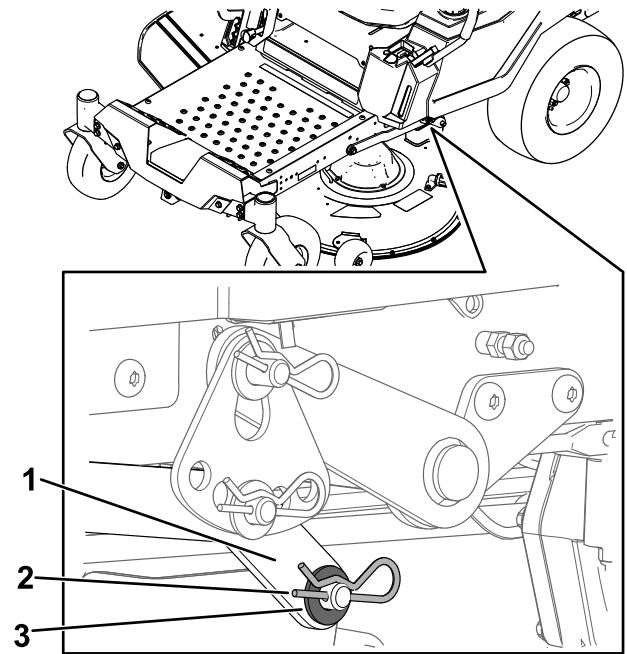

Figure 65
- On 1 side of the machine, remove the washer and hairpin cotter from the deck pin (Figure 65).
- Remove the lift arm from the deck pin (Figure 65).
- On 1 side of the machine, lift the rear of the mower deck and install the lift arm to the deck pin (Figure 65).
- Install the lift arm using the washer and hairpin cotter (Figure 65).